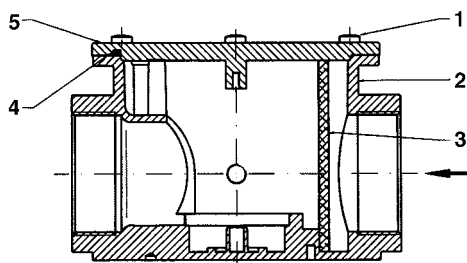
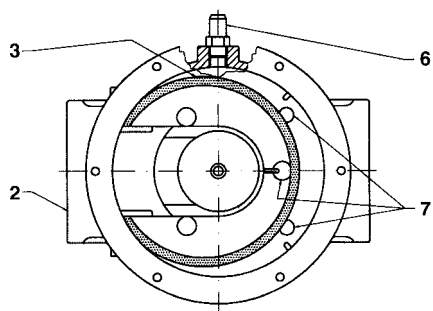

Fig. 27b
Fig. 27c - Top view, without cover
Threaded fittings - Fig. 27b and Fig. 27c
After having ensured that there is no pressurised gas inside the filter, remove the cover (5) by unscrewing the fastening screws (1). Remove the filter cartridge (3), wash it in soap and water, blow it with compressed air (or replace if necessary) and put it back in its initial position, checking that it fits between the positioning guides (7) and that it does not stop the cover (5) from being put back in place. Finally, put the cover (5) back in place, making sure that the O-Ring (4, Fig. 27b) is in its seat.
Key (Fig. 27b - Fig. 27c)